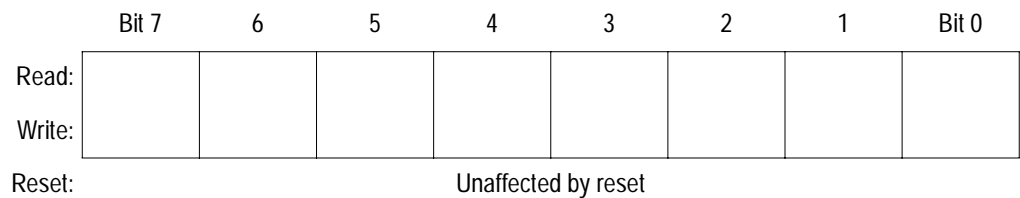

**Figure 3-2. Accumulator (A)**
The accumulator (A) shown in **Figure 3-2** is a general-purpose 8-bit register. The CPU uses the accumulator to hold operands and results of arithmetic and non-arithmetic operations.